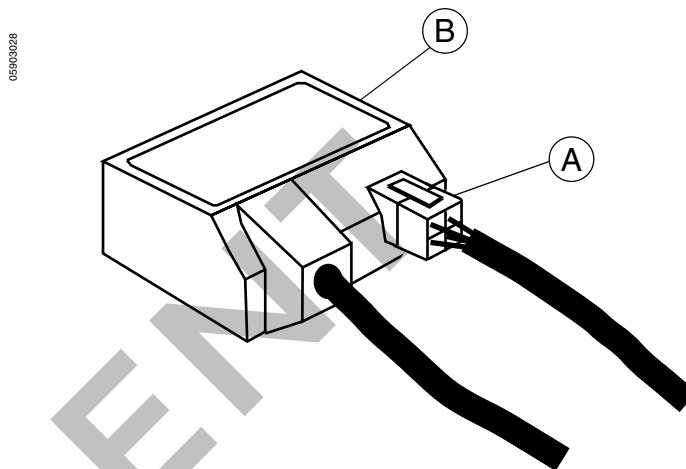

Figure 1: Communication Adapter
1. Mark connector (A) in figure 1 at CIM3F communications adapter (B) in figure 1 for circuit breaker before being tested.
2. Disconnect connector (A) from CIM3F communications adapter (B).
3. Reconnect connector (A) when testing is complete.